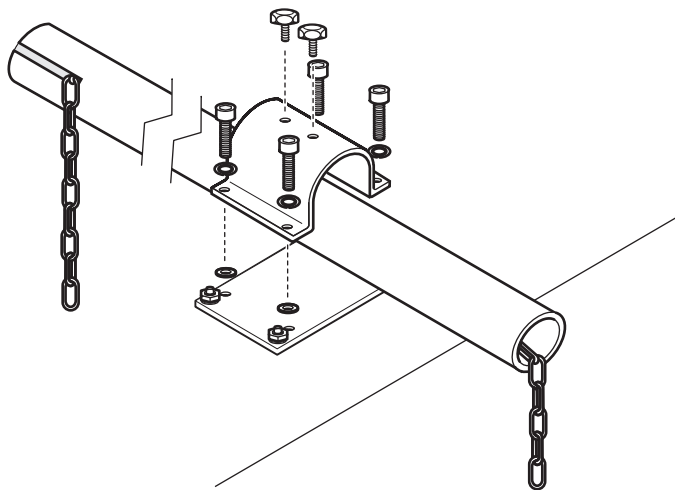

Figure 4 Installing on the ground
6. Mount the arm and the arm bracket on the mounting plate and secure the arm using the two bolts from the set of small parts (Figure 4 on page 6).